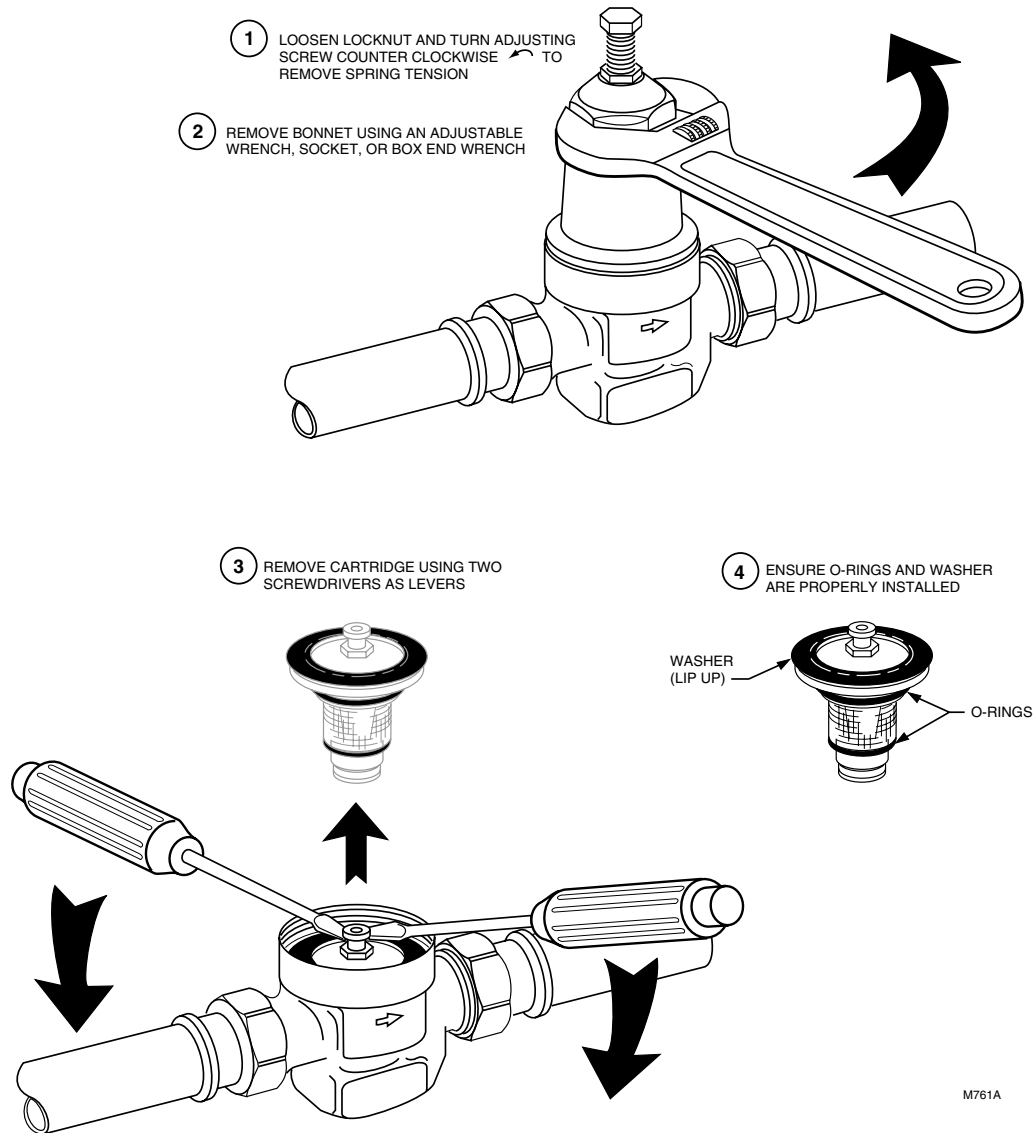

Fig. 3. Replacing the D05 cartridge.
Replacing the Cartridge (See Fig. 3)
- 4 Remove the cartridge using two screwdrivers as levers as shown in Fig. 3.